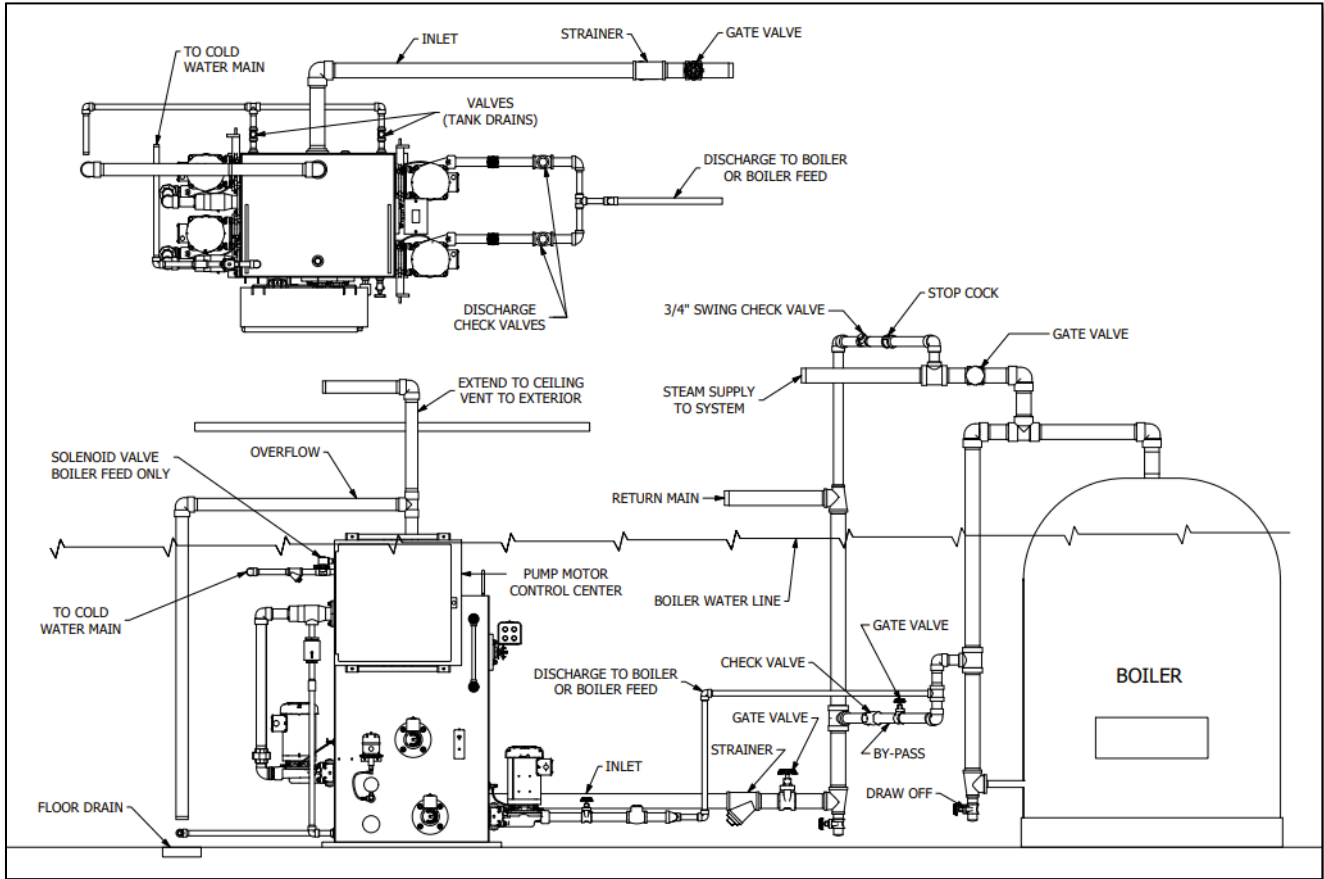

Figure 1.
E. PIPING CONNECTIONS - All units are provided with heavy steel threaded fittings on the water inlet. Installation of valves with pipe flanges or unions, rather than couplings, is recommended to permit ease of installation and removal. All piping should be properly supported by hangers, not by its connections to the units. Typical piping systems are shown in Fig. 1. There are points however, that cannot properly be shown in the drawing. They are listed (1-7):
3. VENT CONNECTIONS: The hurling tank requires a vent. It should rise to a point near the ceiling, but NO LESS than twelve (12) inches above the boiler water line. The plumbing of the vents should not be reduced and should match the tapping size found on the tank. Venting to same room as the system may cause humidity that can lead to equipment damage. Vent to exterior when possible.
4. EQUALIZER CONNECTIONS: A three-quarter (3/4) inch equalizing line should be installed between the steam main and return main through a swing check valve and hand valve as depicted in Fig. 1. It is not necessary to install an equalizer connection on systems using DVD and DVDA units as it is incorporated in the differential controller installation.
5. WATER CONNECTIONS: A water connection should be plumbed into a three-fourth (3/4) or one (1) inch reducing tee in the vent line.